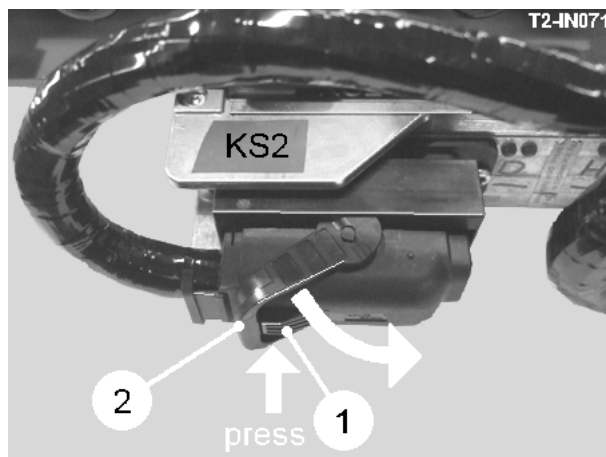
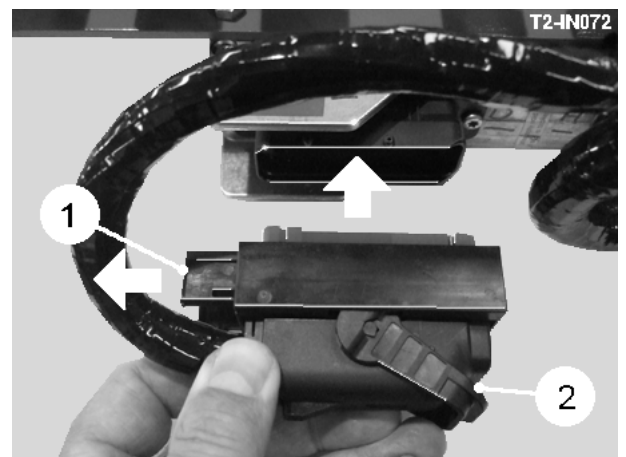

Fig 52
Fig 53
1. Press and hold the button (item 1, fig 52).
2. Fully rotate the lever (item 2, fig 52) to raise and release the plug.
1. Ensure the slider (item 1, fig 53) is fully out by rotating the lever (item 2, fig 52).
3. Rotate the lever (item 2, fig 53) to lower the plug fully into the socket. Continue until the lever is locked behind the button (item 1, fig 52).
The feed to the slave box and service terminal is protected by the 2Amp fuse (item 1, fig 53) inside the slave box.